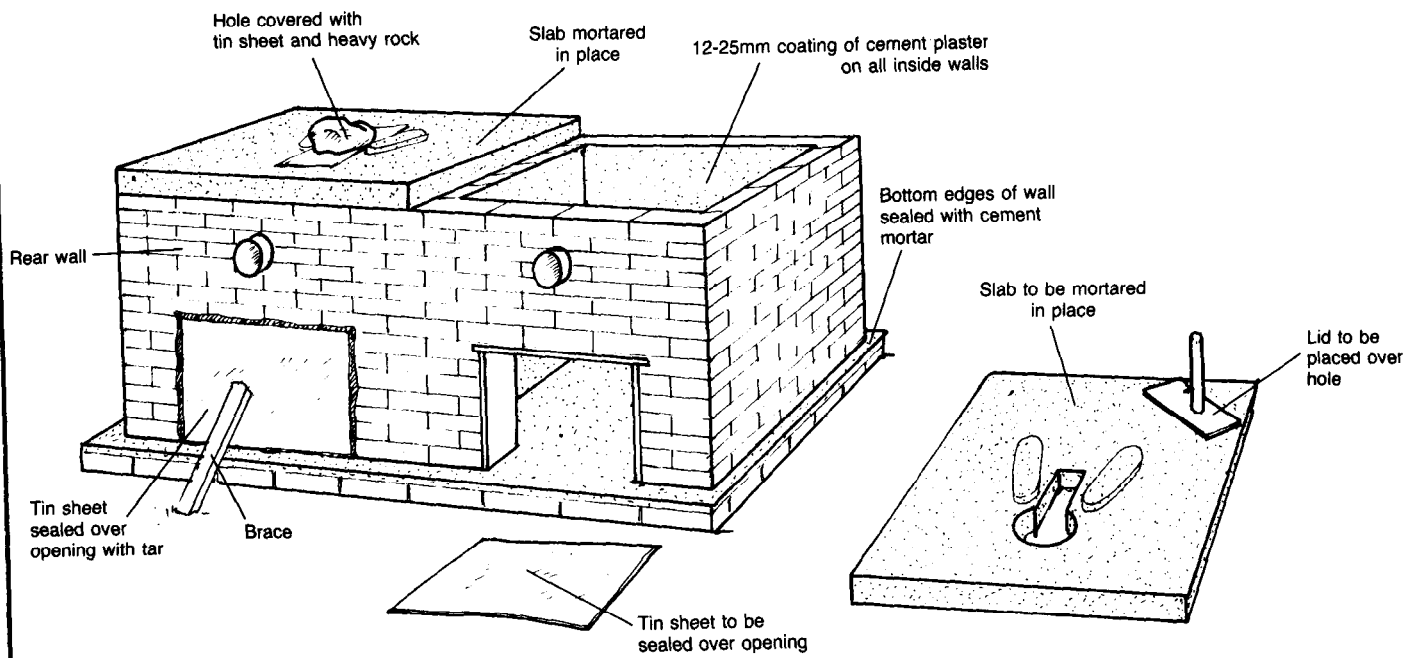

Figure 9. Brick and Mortar Walls Completed
8. Coat the insides of the walls with 12-25mm of cement plaster. Seal the bottom edges of the walls, inside and outside, with cement plaster. See Figure 9.